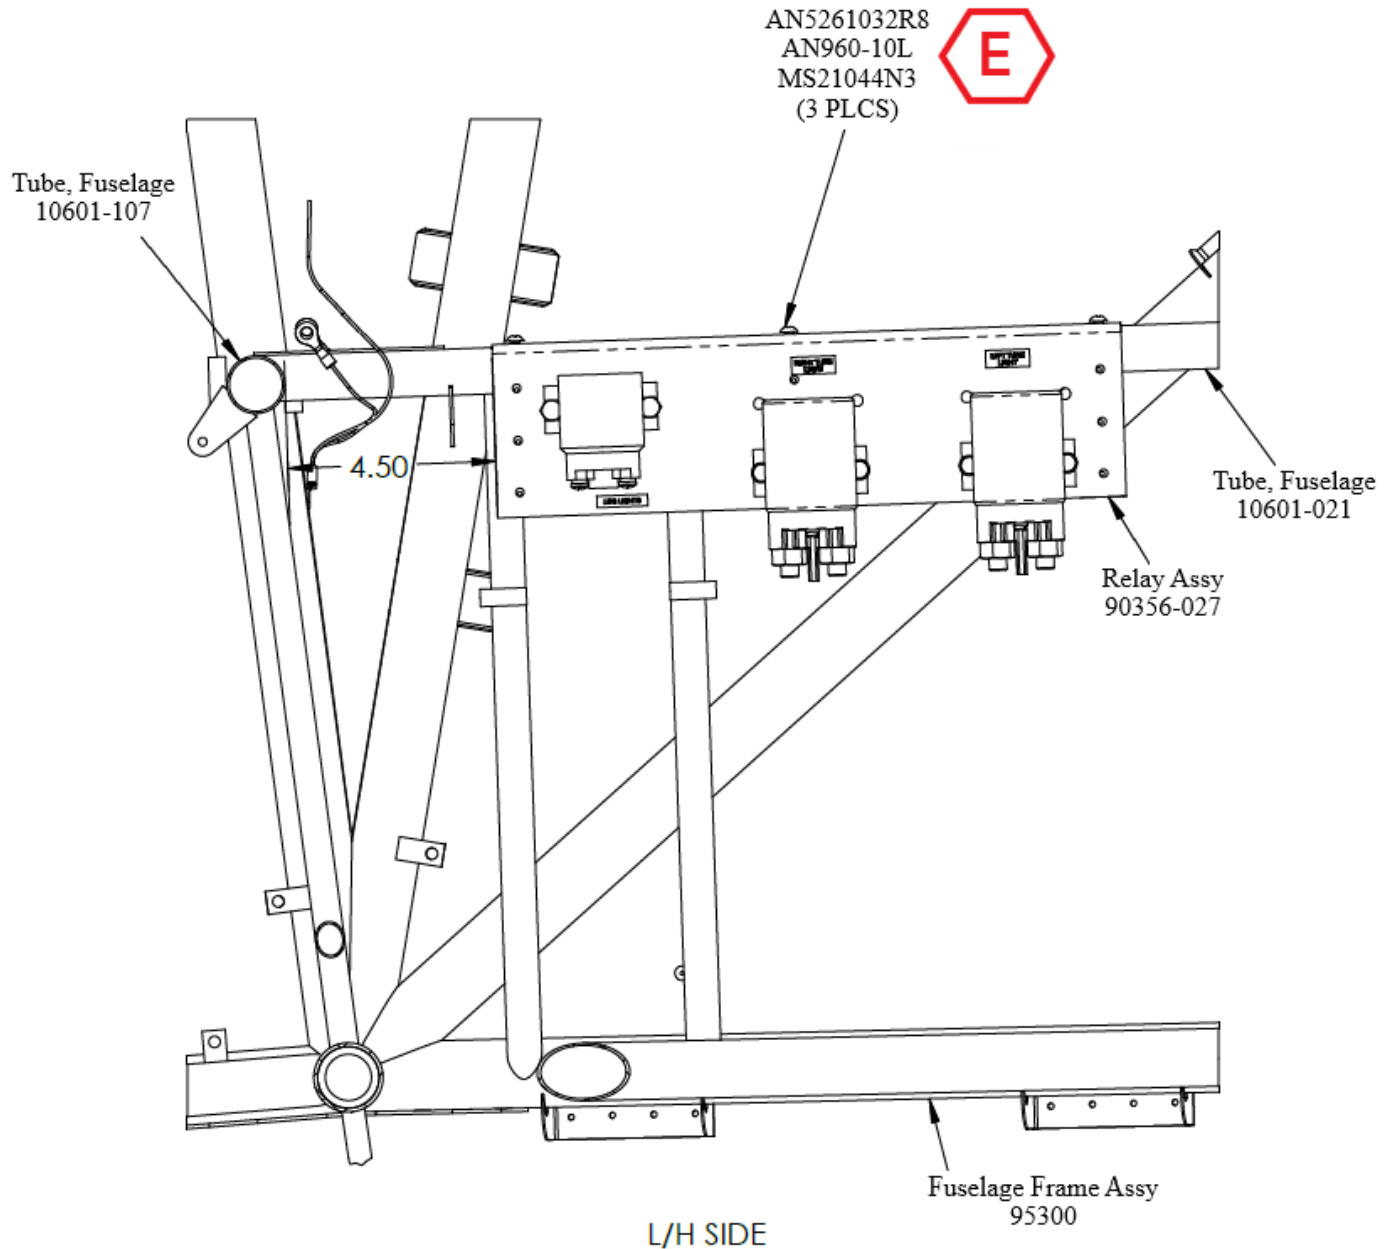

Figure 7: 90356-27 Relay Assembly Installation
12. Connect the wires from the Turn Light Assemblies (R/H and L/H) to the Turn Light Relay Assembly as shown in Figures 7,8 and 9. (See Appendix for detailed wiring charts)
13. Drill size #10 on assembly to match Relay Assy 90356-27. Refer to Figure 7, section E.